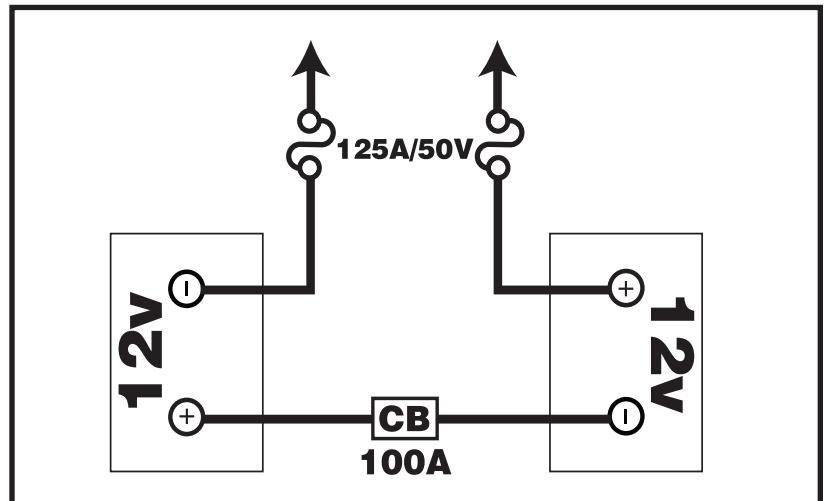

Figure 15. Battery Wiring Diagram
7. Place a new battery in each battery well. Face the battery terminals of each battery away from the seat post. See figure 15.